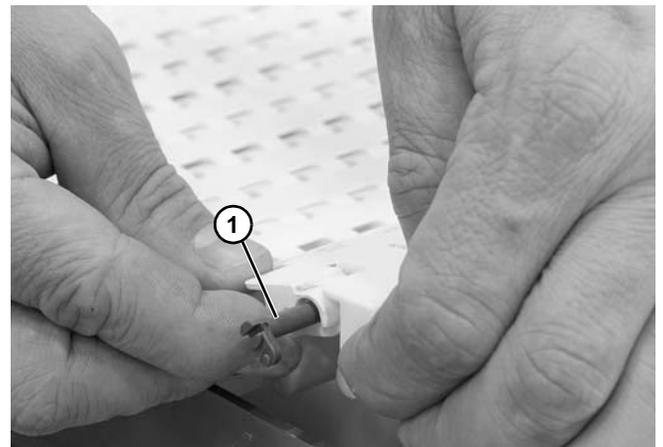

Figure 29
4. Remove the belt rod (Figure 29, item 1).